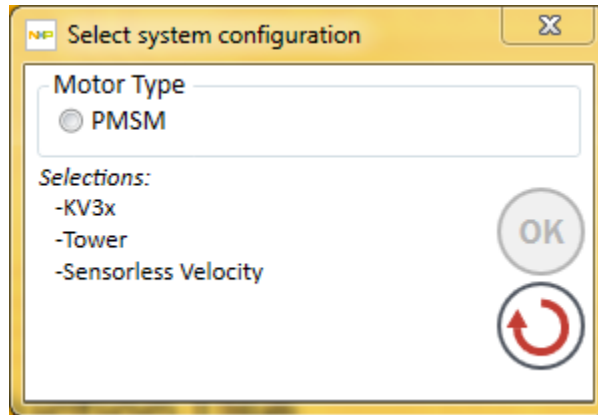

Figure 18. Select motor type
4. Select the type of motor that will be used in the application (Figure 18)